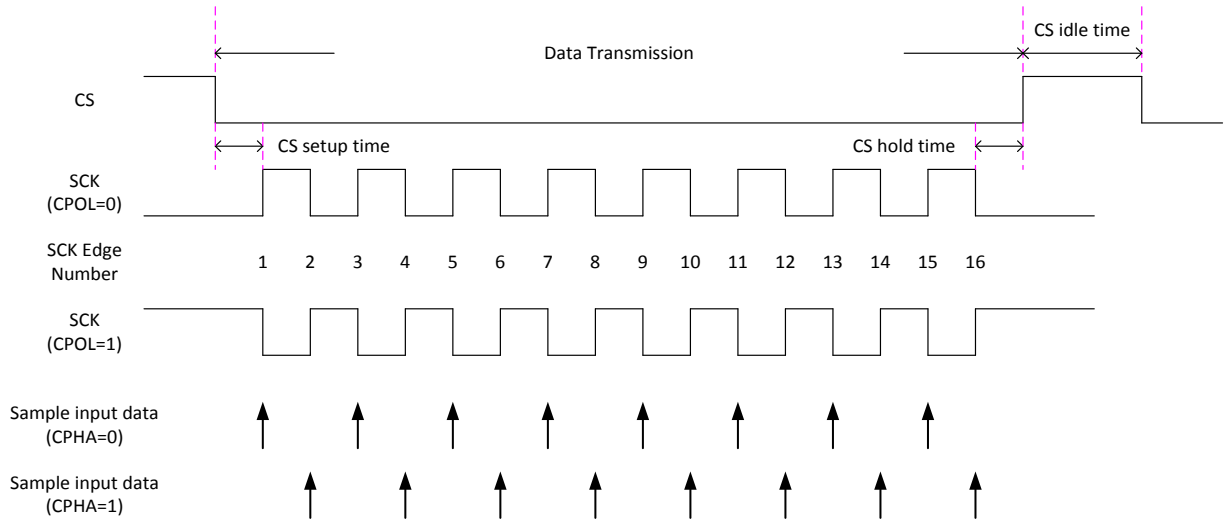

Figure 7.1-1. SPI transmission formats
- The serial clock frequency supports maximum of 48MHz with CPOL and CPHA features. CPOL defines the clock polarity in the transmission. CPHA defines the legal timing to sample data. The detailed timing diagram of the SCK and CS signal is shown in Figure 7.1-1.